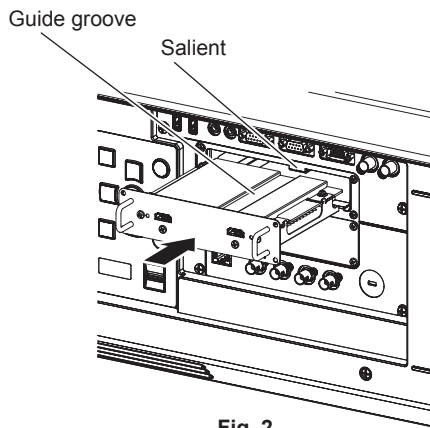

Fig. 2
2) Install the Interface Board to the projector. (Fig. 2)